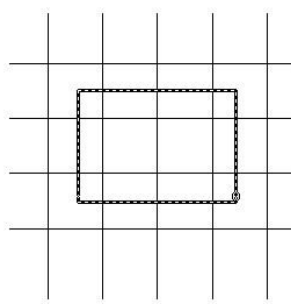

Fig 12
3. Specify the side to trim on. (Fig 12)